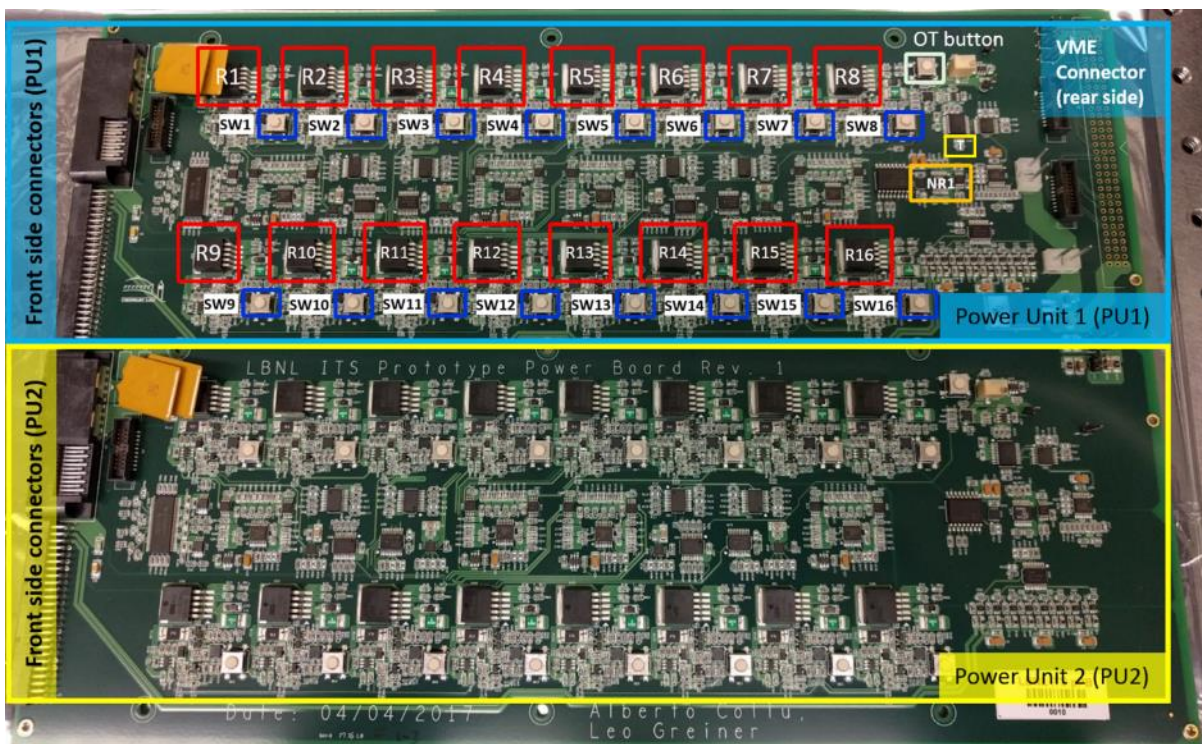

Figure 2: Power Board
The power board (Figure 2) consists of two fully independent and functionally identical half boards or Power Units (PU). Each power unit is split into two polyfuse-protected power domains referenced to a common ground plane. Jumpers on the power board allow for different powering/grounding configurations. The input power may be provided to each domain either from the front of the power board via a breakout board or from the rear side of the power board via a VME connector (only possible for single module testing power boards, see section 7.1).
Each power unit contains a set of 16 positive voltage regulators powered at 3.3V (R\* in Figure 2, 8 per power domain) which are used to generate digital and analog supply voltages to the modules. One negative voltage regulator (NR1 in Figure 2) plus a set of 8 FET switches per power unit generate 8 additional low-current voltages to bias up to 8 sensor modules.
All the functionalities implemented on the power board can be accessed via I2C interfaces (the two power units have independent interfaces). A set of push buttons (SW\* in Figure 2) allows each supply channel to be enabled manually for test purposes.